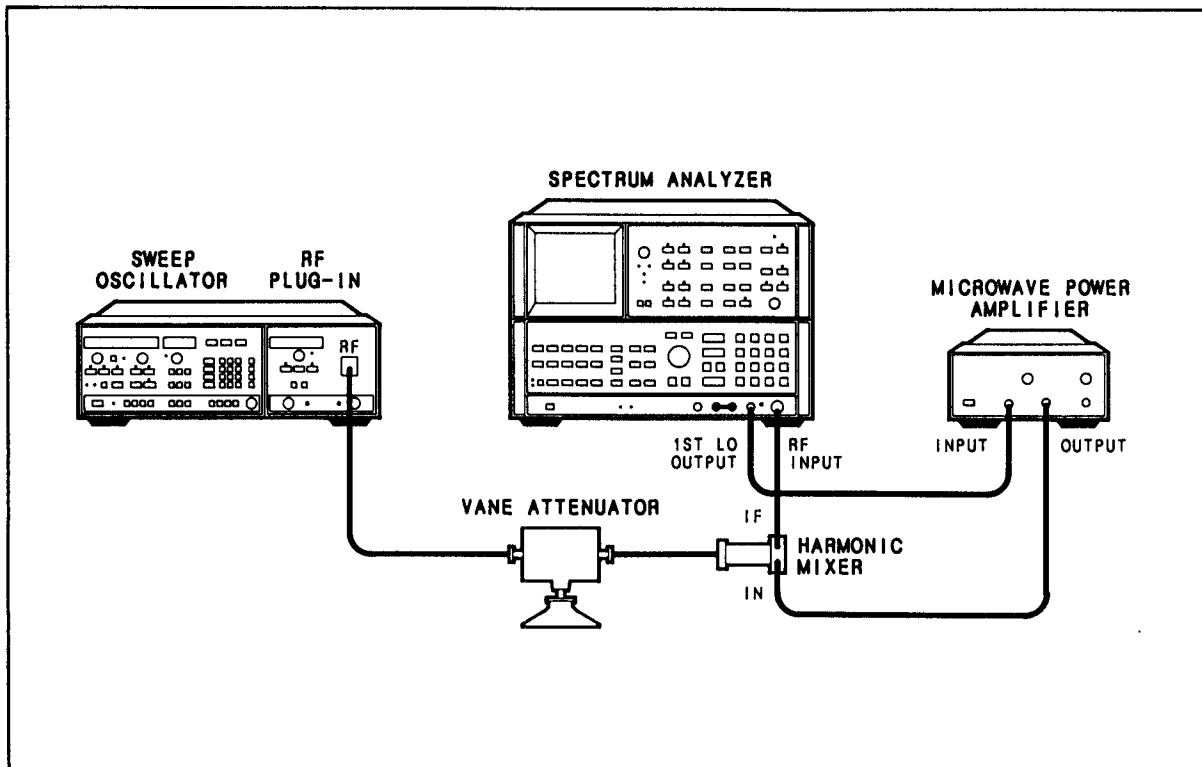

Figure 4-14. AM ON/OFF Ratio and Square Wave Symmetry Test Setup
1. Connect the equipment as shown in Figure 4-14. Set the vane attenuator to 20 dB. Press 8350A/B [INSTR PRESET] [CW] [\square] MOD].